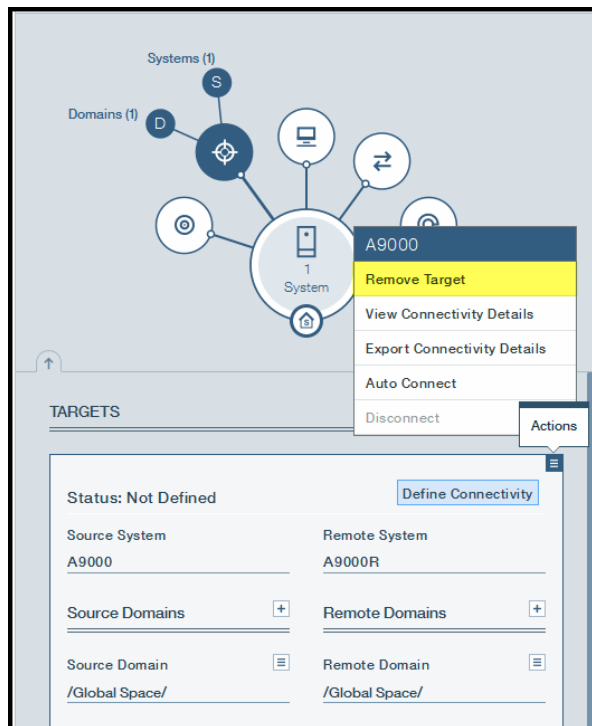

Figure 1-27 Remove Target; note links have already been removed
2. From the Targets spoke in the Systems Hub display, click the **Actions** menu and select Remove Target, as shown in Figure 1-27. Click **Apply** in the resulting confirmation display.